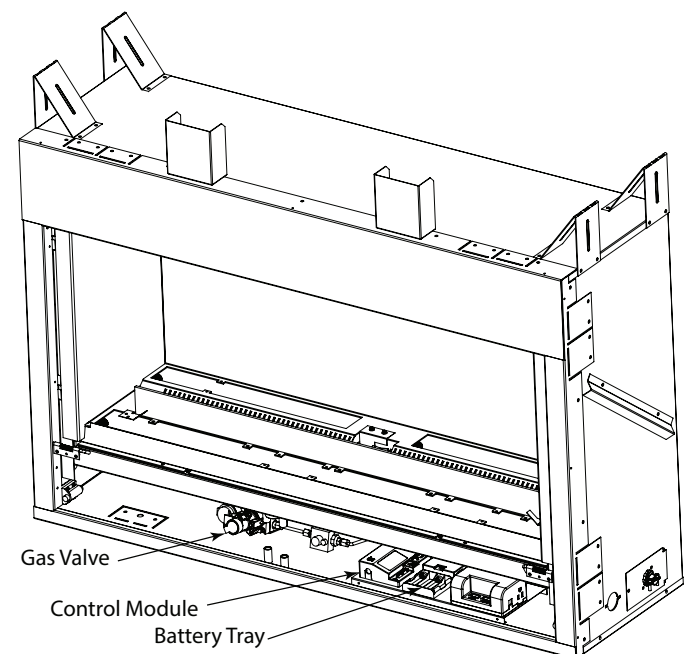

Figure 21 - Control Cavity Location
The IntelliFire™ Plus ODS intermittent pilot ignition system comes with a battery backup system that enables the system to operate in a power outage. The system offers seamless transition from household AC power to battery backup. A factory-installed battery pack is located in the control cavity of the appliance. See Figure 21. Battery longevity and performance will be affected by long term exposure to the service temperatures of this appliance.
1. Access the control cavity of the appliance. See Figure 21 for location. Lift the barrier screen off of the appliance.
2. Locate the battery tray and insert four AA cell batteries. See Figure 21. Battery polarity must be correct or module damage will occur. A complete wiring diagram is included in the electrical section of the appliance installation manual.